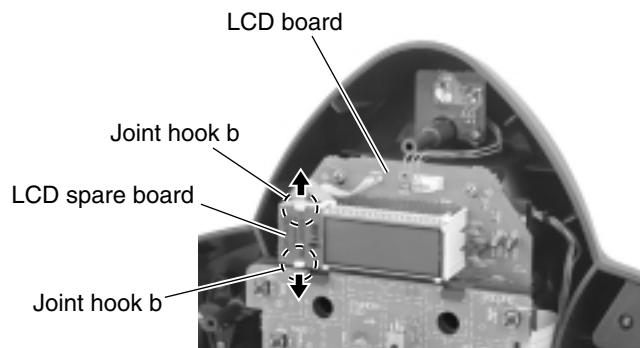

Fig.5
■ Removing the LCD spare board / LED board (See Fig.5 and 6)